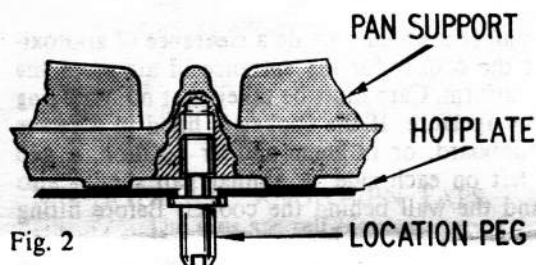

Fig. 2
- (1) If it is necessary for these to be secured to the hotplate, the method to adopt is shown in (Fig. 2), and this ensures that the pan supports themselves do not disengage from the appliance should it be fitted in a caravan on tow.